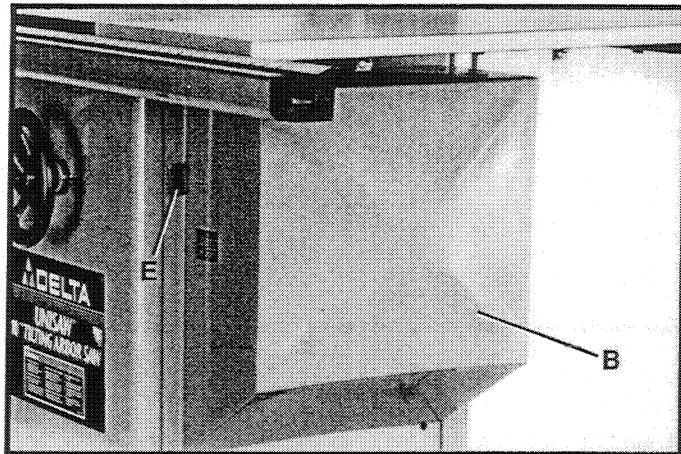

Fig. 54
5. Push down on lever (E) Fig. 54, to lock motor cover (B) in position on the saw cabinet.
6. To open motor cover (B) Fig. 54, pull up on lever (E) and swing motor cover outward.